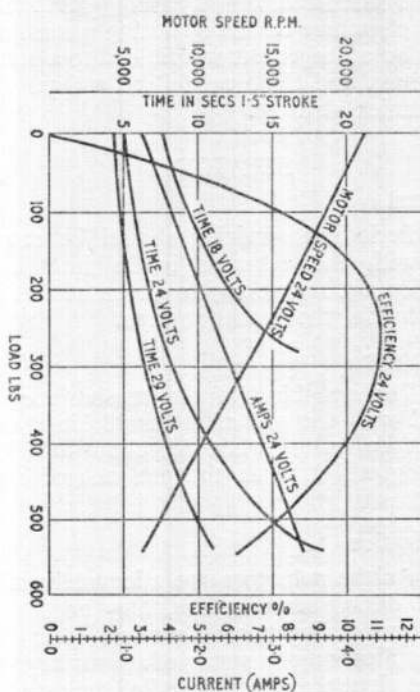

Fig. 7. Performance curves
27. The brush boxes are mounted on an insulated brush rocker which may be set in relation to the split series field to give equal armature speeds in both directions of rotation. Performance curves are shown (fig. 7).